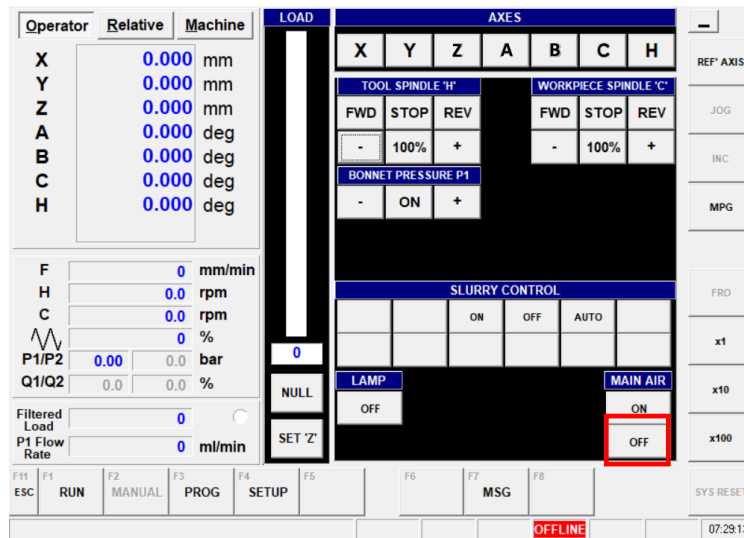

Figure 20 - Compressed air supply OFF
- Switching off the compressed air (Main Air) supply to the machine, is activated from the “Manual” menu in the Zeeko GUI. This is done by pressing the “Manual button” from the main screen and then pressing the OFF button for the main air. See (Figure 20 - Compressed air supply OFF).